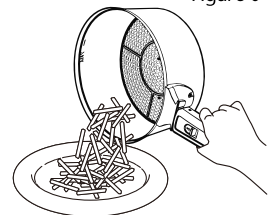

Figure 6
3. Check that your foods are ready. If not, then place the Basket (13) back into the Pan (12) and set the timer for a few more minutes.
4. Empty the contents of the Basket (13) into a bowl or onto a plate (See Figure 6). If necessary, you can also use Tongs to remove foods from the Basket (13).